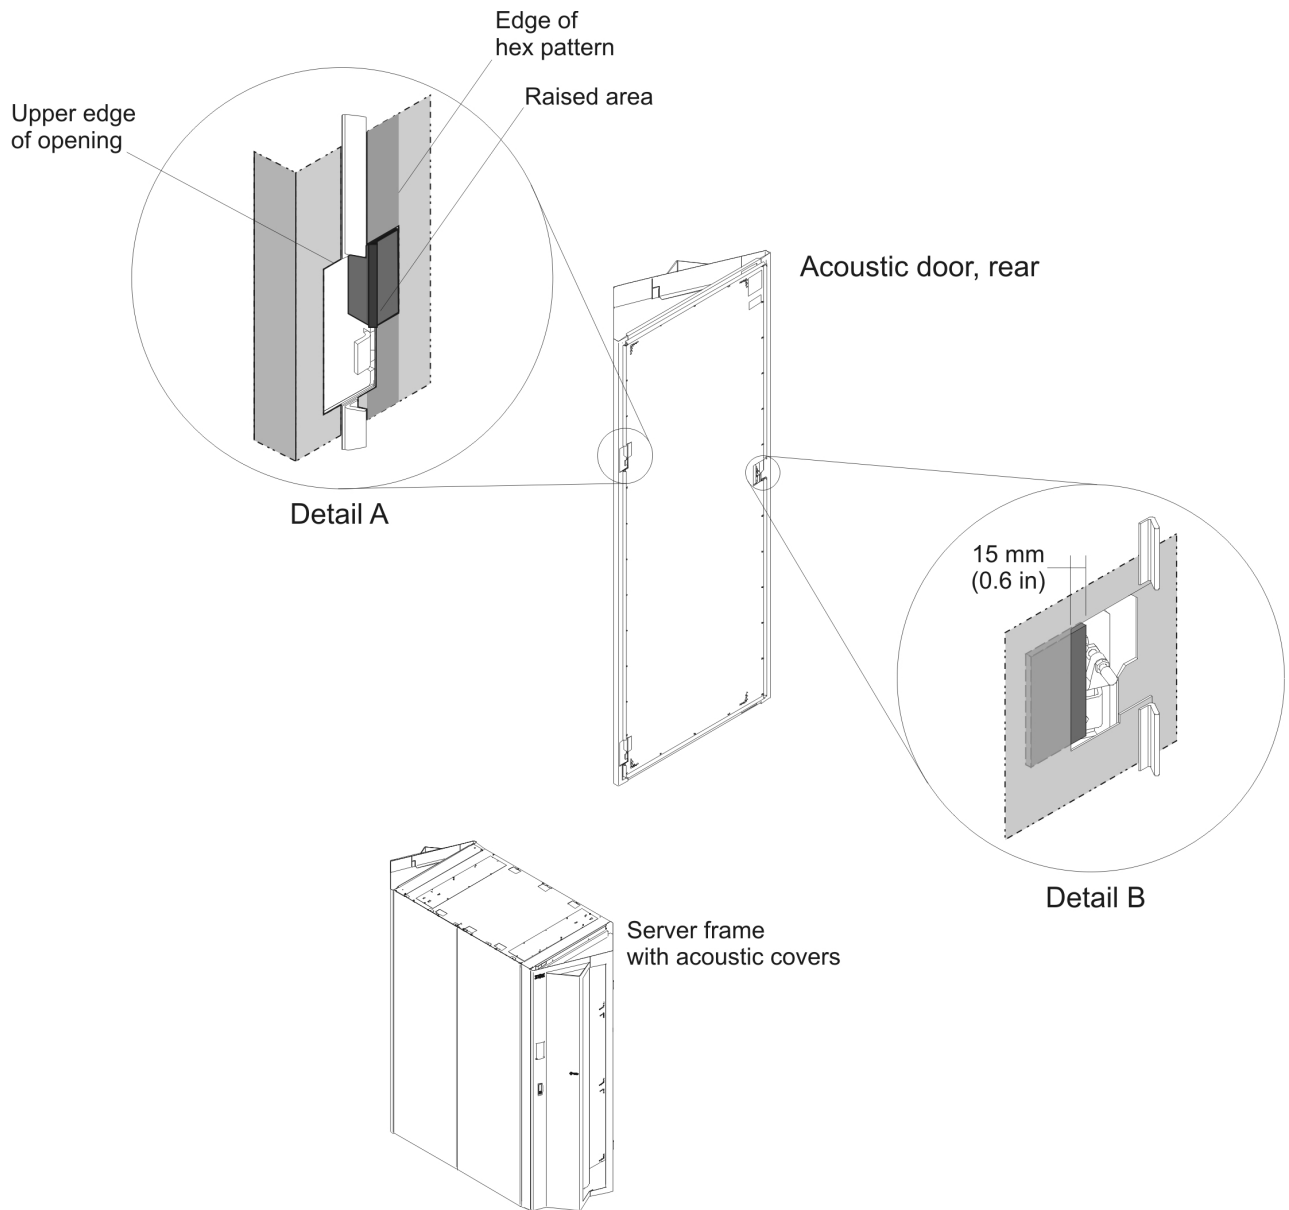

Figure 32. Acoustic door EMC gasket locations for p5-575 server frames
1. Install hinge gaskets on rear door (refer to Detail A on Figure 32 on page 93)
2. Install latch gaskets on rear door (refer to Detail B on Figure 32 on page 93)